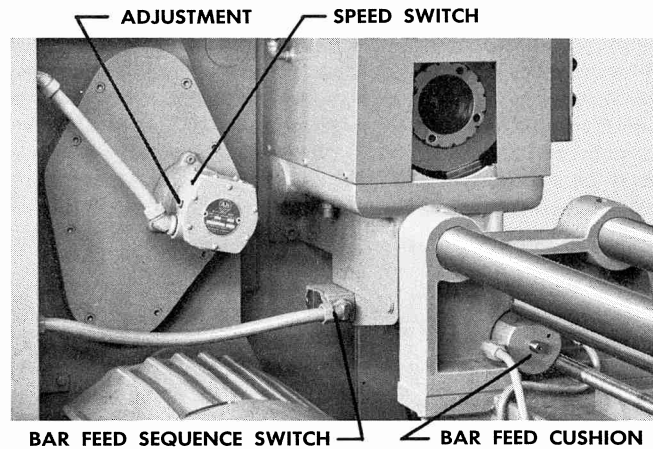

FIG. 5
3. When the spindle is rotating very slowly, the speed switch closes (Figure 5), de-energizing the brake solenoid and energizing S-2 which diverts the headstock oil to the shifting cylinders.
3. The bar feed head should slow down as it reaches the end of its stroke. This is controlled by the cushion (Figure 5).
4. After the collet closes the bar feed head is repositioned for the next feed out cycle. Repositioning of the head is initiated by the sequence limit switch on the collet yoke bracket. (Figure 5)